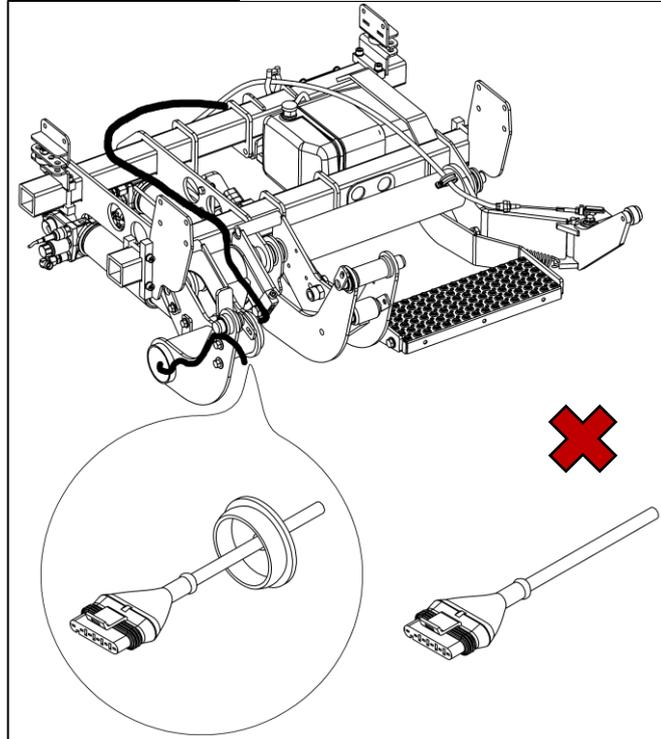

Fig. 16
- Route the control unit cable for platform connection (white plastic cover) to the swing-arm assembly in the center of the vehicle (Fig. 16).